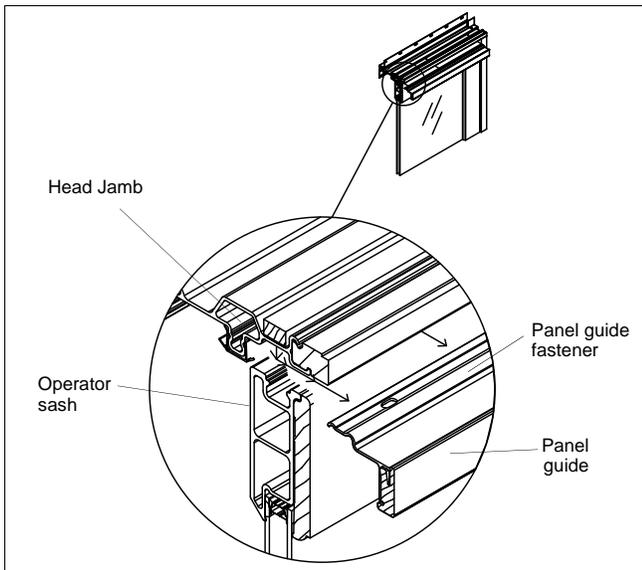

Figure 12
12. Close and lock the operator panel. Remove the remaining screws fastening the operator panel guide to the head jamb. Remove the panel guide and fastener from the unit as shown in figure 12.